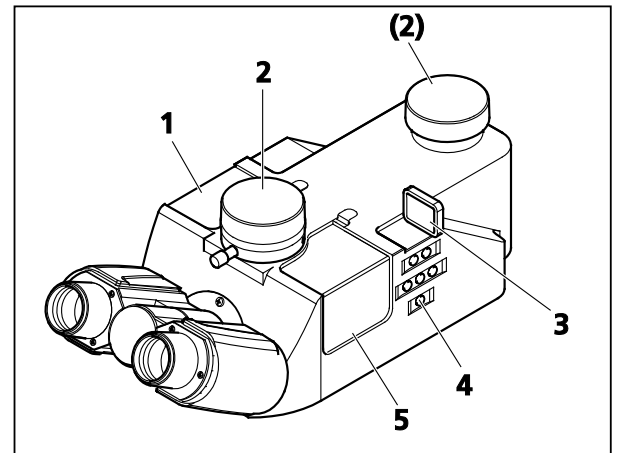
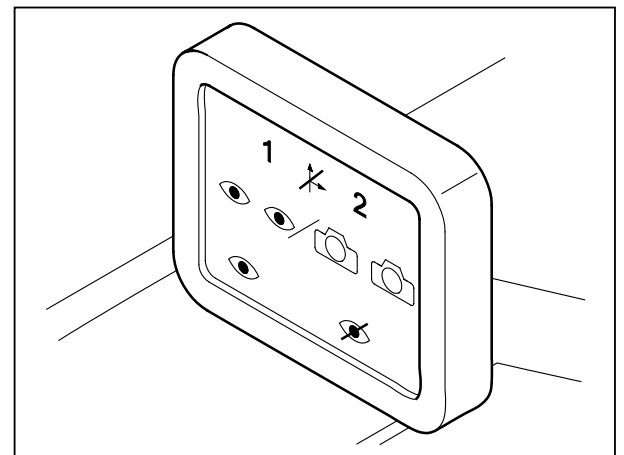
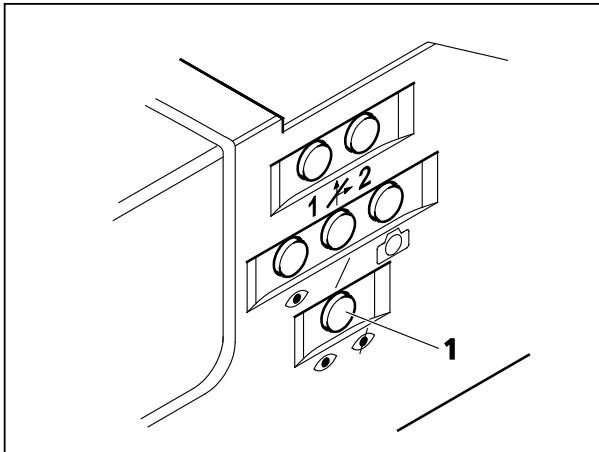

Fig. 86 Binocular phototube 30°/25 mot. with two camera ports (2TV tube mot.)
Fig. 87 Tube display
Fig. 88 Control panel
The 2TV tube mot. (Fig. 86) is available for all Axio Imager stands of type .M2 / .M2m and .Z2 / .Z2m.
The 2TV tube has two TV ports (Fig. 86/2).
LEDs on the tube display (Fig. 86/3, Fig. 87) indicate the selected light path setting.
If you find the illumination of the display a hindrance, you can switch it off by pushing the eyepiece shutter button (Fig. 88/1) for three seconds.
You can set the light path and the eyepiece shutter via the buttons of the control panel (Fig. 86/4, Fig. 88/1) on the right side of the tube.
- To insert P&C modules into the 2TV tube, remove the corresponding magnetically held covers (Fig. 86/1 and 5) by lifting them off.